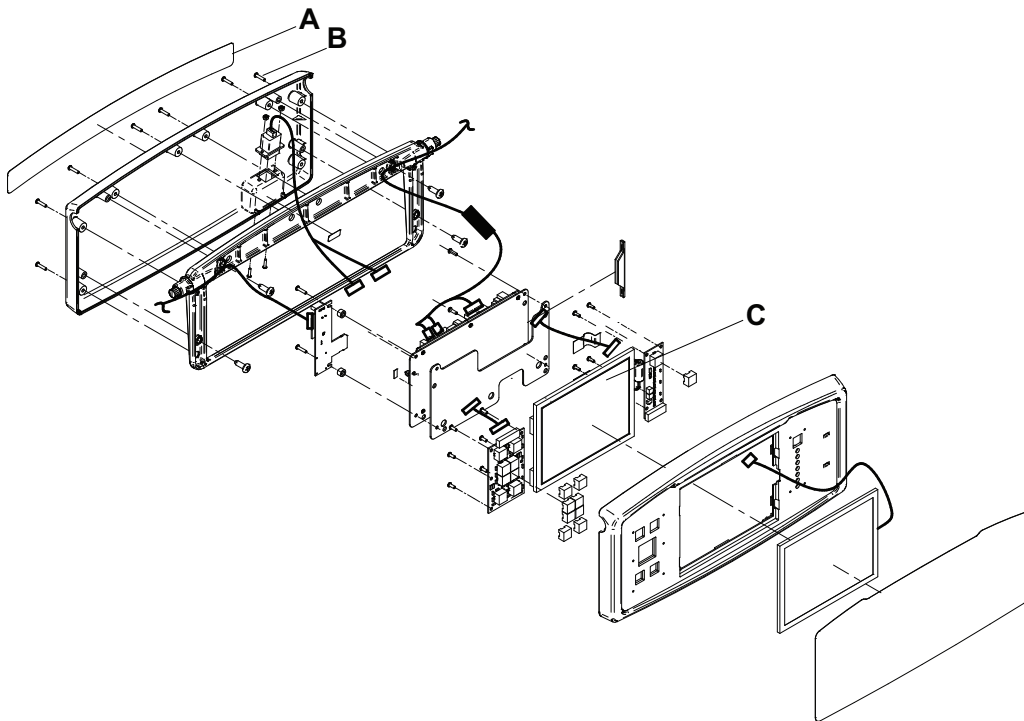

Figure 58 – Footboard assembly
3. Using a small slotted screwdriver or a utility knife, remove the fascia back foot control label (A) (Figure 58).
4. Using a #2 Phillips screwdriver, remove the six screws (B) that secure the footboard display panel to the footboard (Figure 58). Save the screws.
14. Remove the LCD interface board from the display (C) (Figure 58).